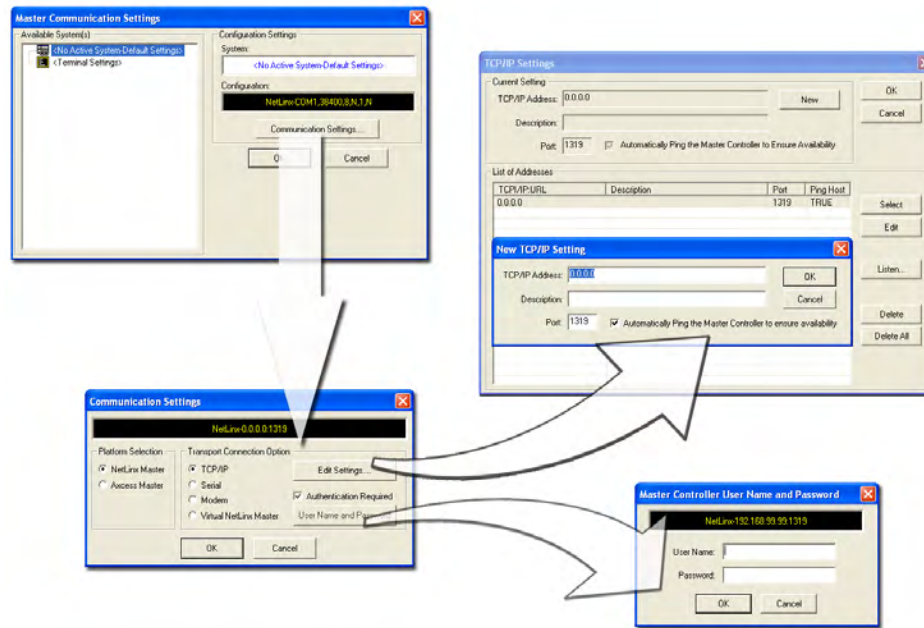

FIG. 30 Assigning Master Communication Settings and TCP/IP Settings
3. Select **Settings > Master Communication Settings** from the Main menu to open the Master Communication Settings dialog (FIG. 30).
7. Click the **Edit Settings** button (*on the Communications Settings dialog*) to open the TCP/IP Settings dialog (FIG. 30). This dialog contains a series of previously entered IP Address/URLs and their associated names, all of which are stored within Studio and are user-editable.